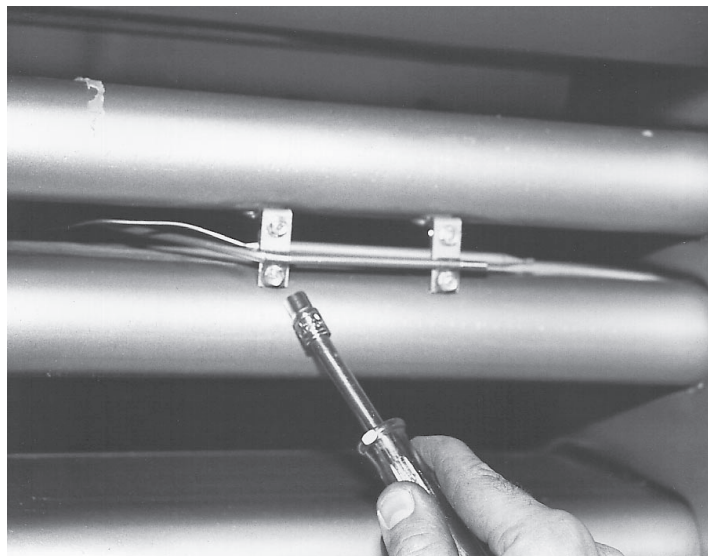

Fig. 10
5. From inside tank remove (4) #8 screws using a 1/4" socket to disassemble the thermostat bulb and hi limit clamps. (Fig. 10)